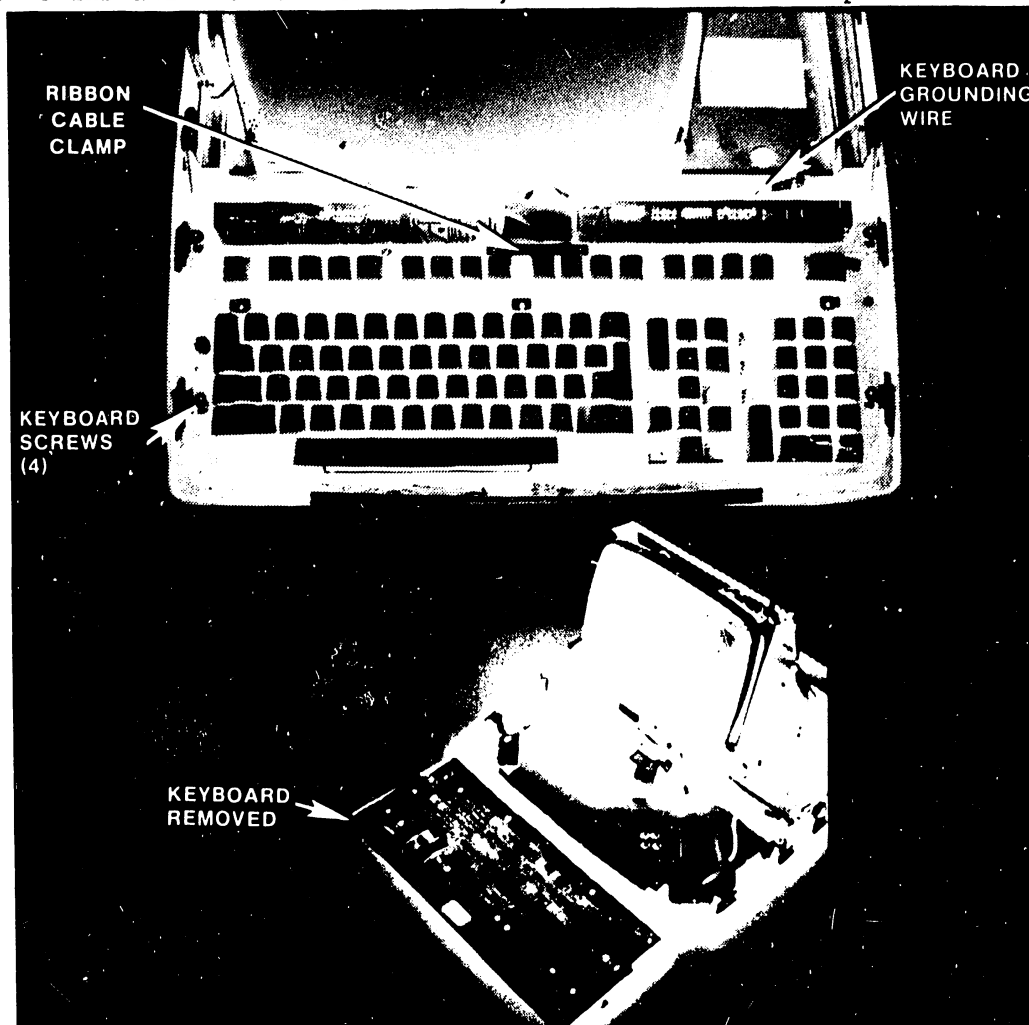

Figure 5-5 5506 Keyboard Removal/Re-Installation
5.4.2.1 5506 Monitor (Figure 5-5)